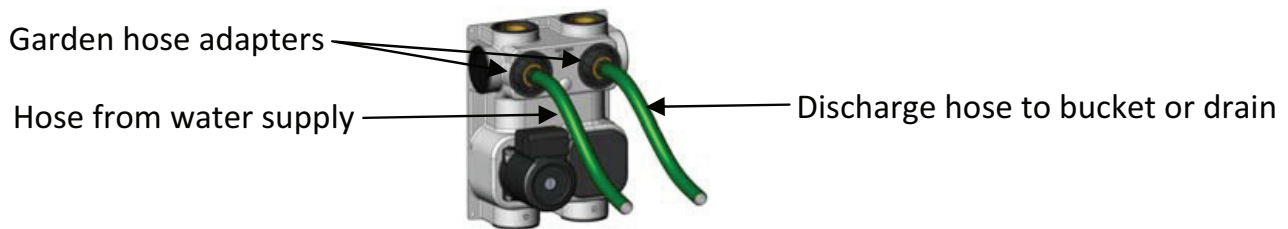

Figure 12: Connections for flushing heat pump side of system with a garden hose
- Attach garden hose from domestic water supply to one of the valves and a drain hose to the other valve (Figure 12).